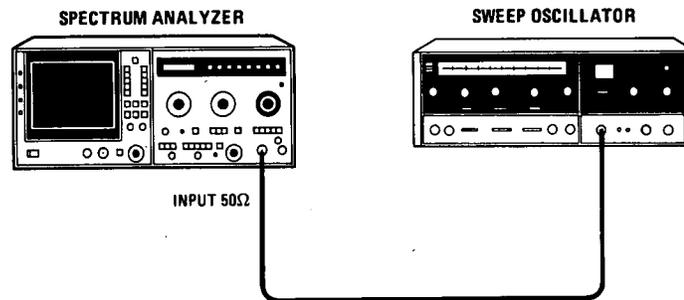

Figure 5-49. YTF Tracking Adjustment Test Setup
2. Reconnect power cord, set LINE switch ON, and connect equipment as shown in Figure 5-49. Set all normal (green) spectrum analyzer settings, except as indicated, and other controls as follows: